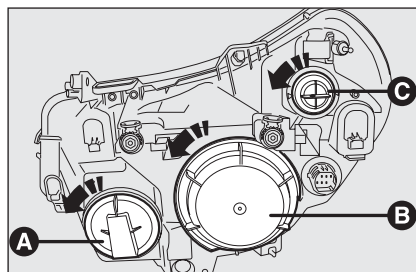

fig. 20
To replace the main beam bulb, remove cap **A**-fig. 20.
To replace the dipped beams/sidelights bulb, remove cap **B**-fig. 20.
To replace the direction indicators bulb, remove the bulb holder **C**-fig. 20.
- ☐ remove the protection cover **B**-fig. 20 turning it counterclockwise;
- ☐ refit the protection cover **B**-fig. 20 turning it clockwise and check for proper locking.
- ☐ remove the protection cover **A-fig. 20** turning it counterclockwise;
- ☐ refit the protection cover **A-fig. 20** turning it clockwise and check for proper locking.
- ☐ remove the protection cover **B-fig. 20** turning it counterclockwise;